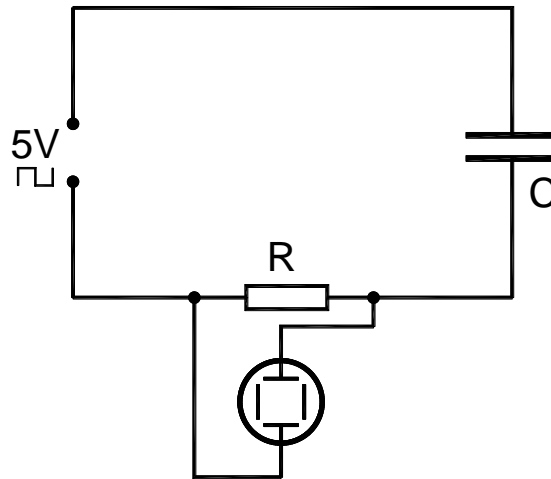

Fig. 2 Determining the permittivity of free space (or electric field constant) ϵ_0 from the charge/discharge function
- Set up the experiment as shown in Fig. 2.